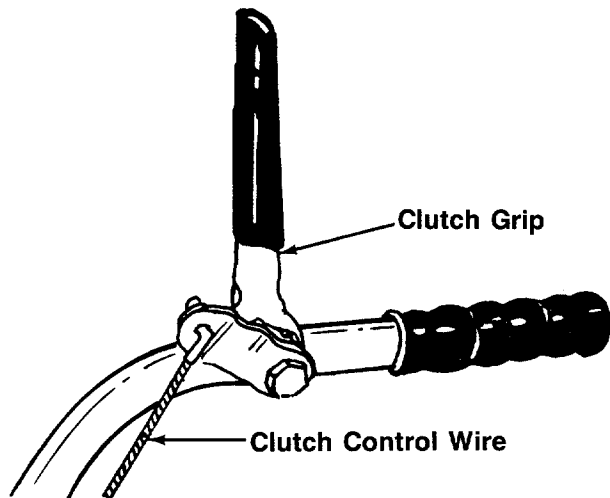

FIGURE 11.
3. Hook the "Z"-end of the clutch cable wire into clutch grip. See figure 11.